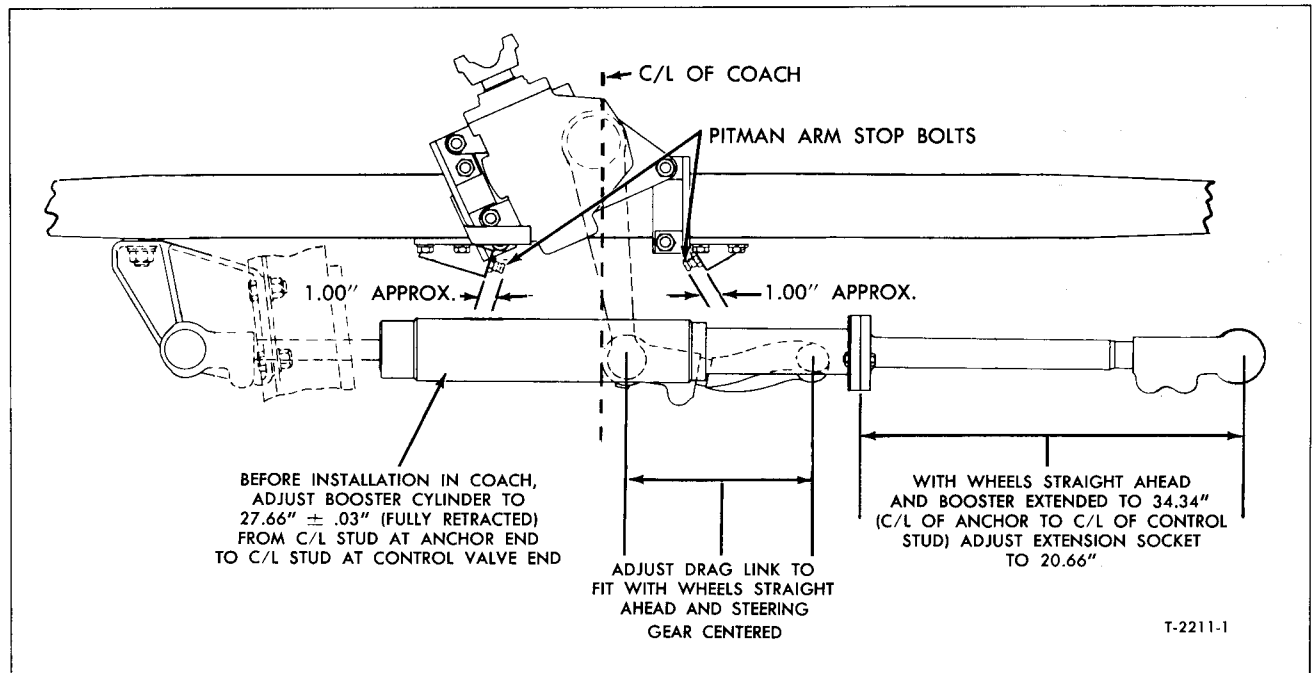

Figure 6—Power Steering Booster Cylinder Installation
1. Before installing booster cylinder (2) assembly in coach, compress booster cylinder into fully retracted position; then thread piston rod end socket assembly (1) on booster cylinder piston rod to the dimension shown in figure 6, measured from centerline of socket end tapered stud (1) to centerline of booster cylinder ball stud (4).
2. Position dust cover and dust cover spring on booster cylinder ball stud (4).
3. Position washer, dust cover, shield, and dust cover spring on piston rod end socket tapered stud (1).
4. Check length of cylinder extension and end socket assembly (5), measuring from center of end socket ball stud to flange of extension (fig. 6). Distance should measure 20.66". Adjust as necessary to obtain this dimension.
5. Set wheels in straight ahead position and extend booster cylinder to 36.34" (measure from C/L of piston rod end socket stud (1) to C/L of cylinder ball stud (4)).
6. At this stage of installation the booster cylinder (2) should be suspended horizontally under coach and fluid lines (3) connected to unit.
7. Position booster cylinder ball stud body flange (4) to flange of end socket extension (5), at the same time inserting booster cylinder ball stud (4) in hole at end of drag link (7) and piston rod end socket tapered stud (1) into hole in piston rod socket end support (11).